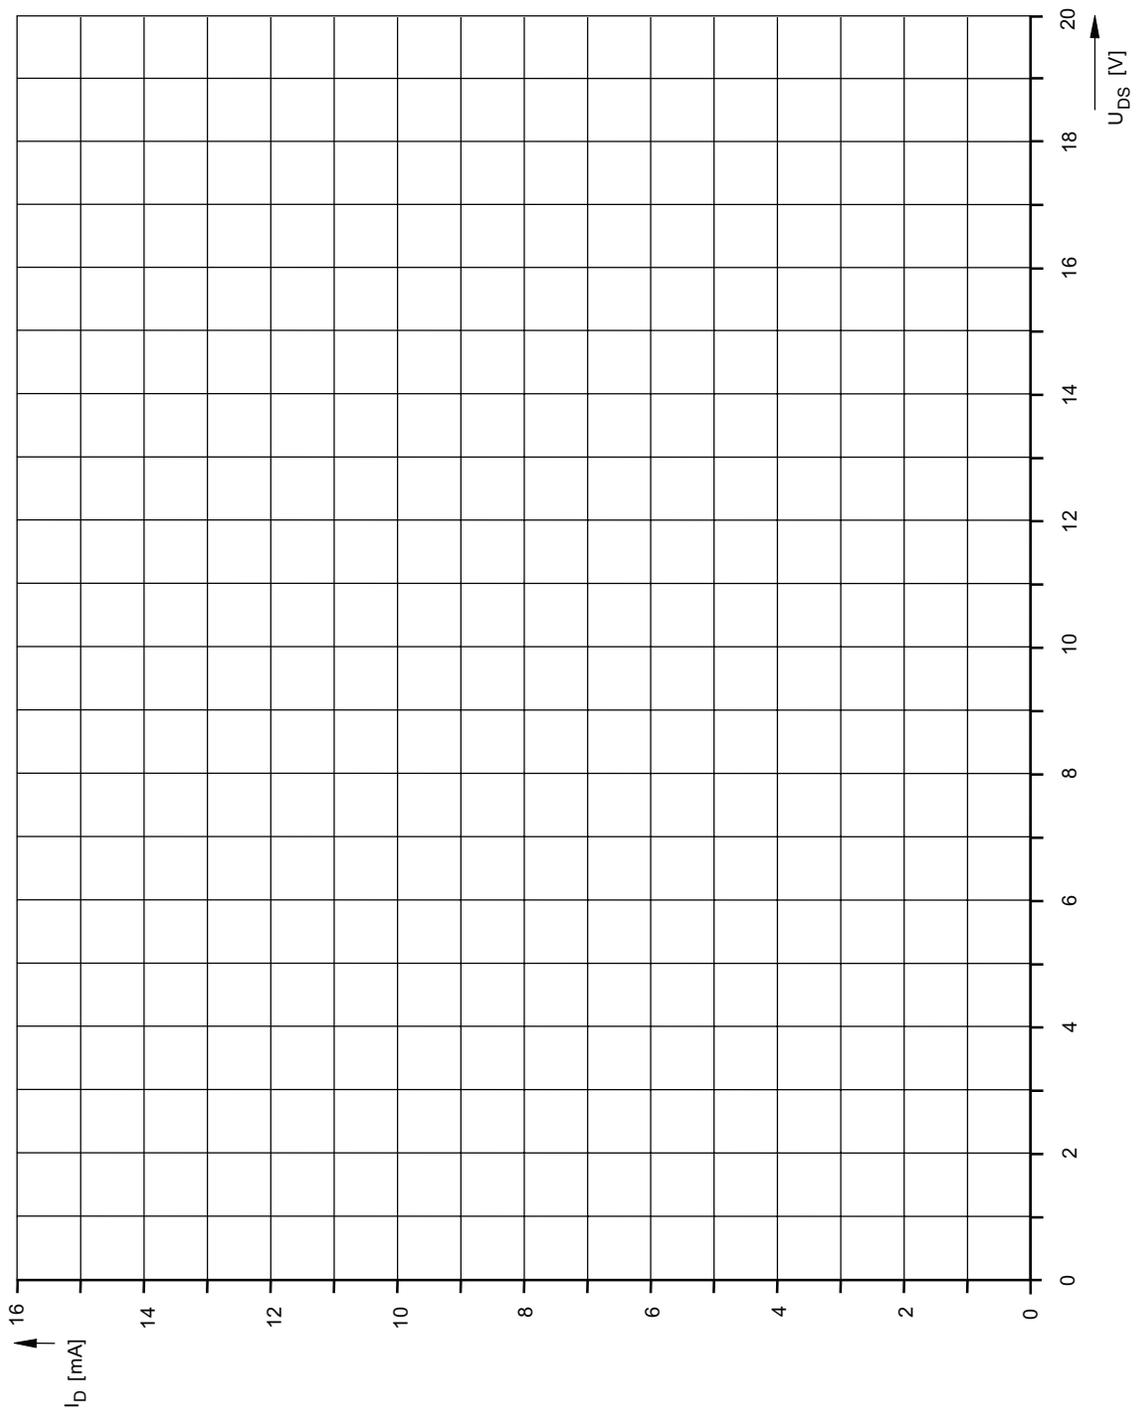

Fig. 5.4.2.2
- On the diagram (Fig. 5.4.2.2), plot a graph showing the dependence of the drain current  $I_D$  on the drain/source voltage  $U_{DS}$  at different gate/source voltages  $U_{GS}$ .